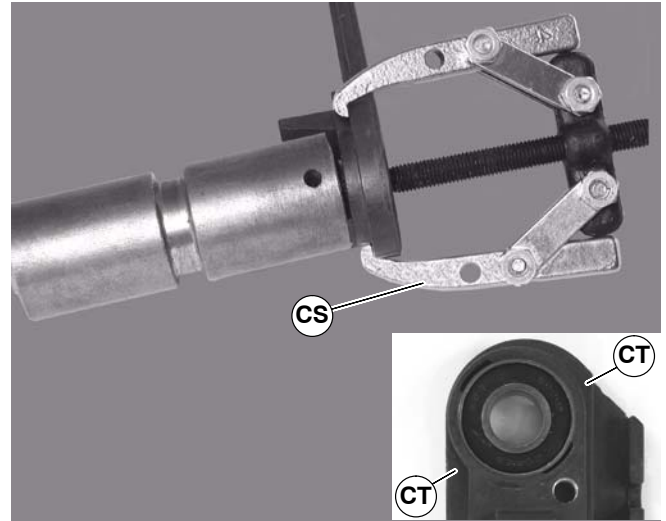

Figure 46
4. With bearing removal tool, (CS of Figure 46), part number 807-1078, remove head plate from idler shaft. Connect tool jaws at indicated points (CT).